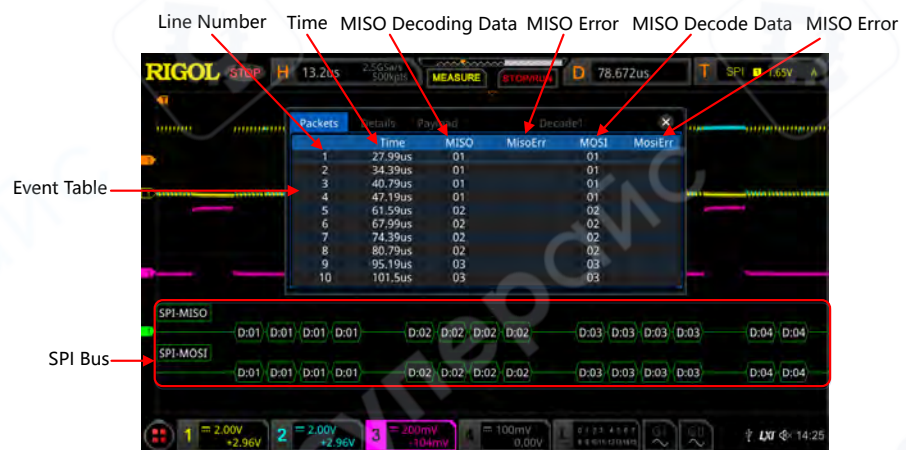

Figure 15.8 SPI Decoding Event Table
- Open or close the event table: Press **Event Table** continuously to enable or disable the display of the event table. When enabled, the following event table as shown in *Figure 15.8* is displayed. You can also enable the touch screen to tap the icon  at the right-upper corner of the event table to close it.